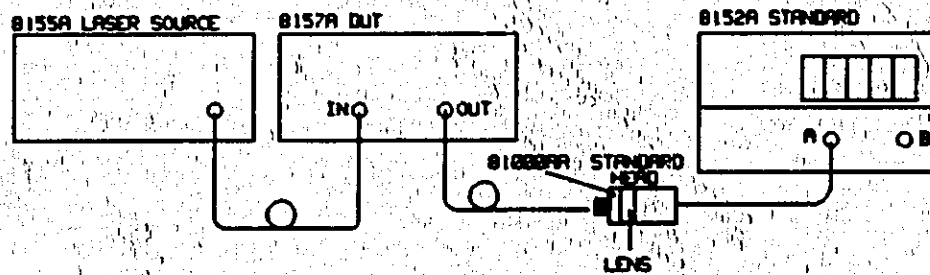

Figure 4-2. Total Insertion Loss Test Set-up
5. Connect the equipment as shown in Figure 4-2.